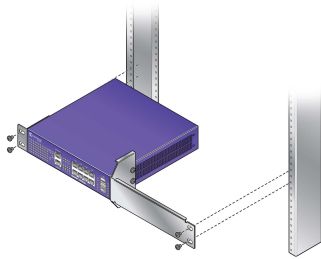

Figure 229: Installing the Summit X430-8p Series Switch
- 4 Slide the switch into the equipment rack (Figure 229: Installing the Summit X430-8p Series Switch on page 263).